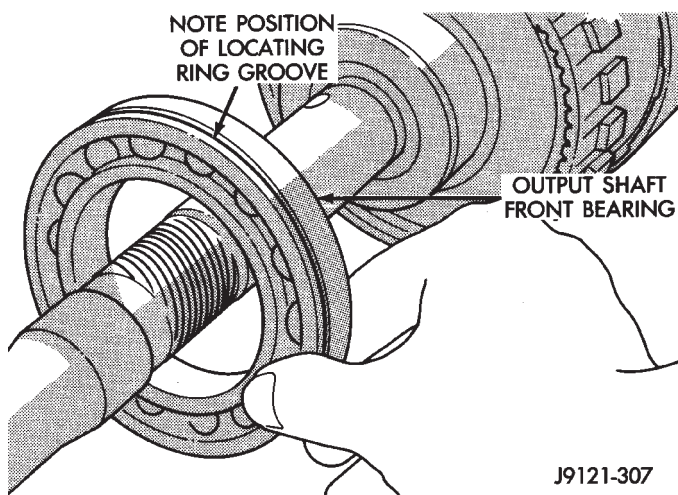

Fig. 21 Removing/Installing Output Shaft Front Bearing
(6) Remove front bearing from output shaft (Fig. 21).